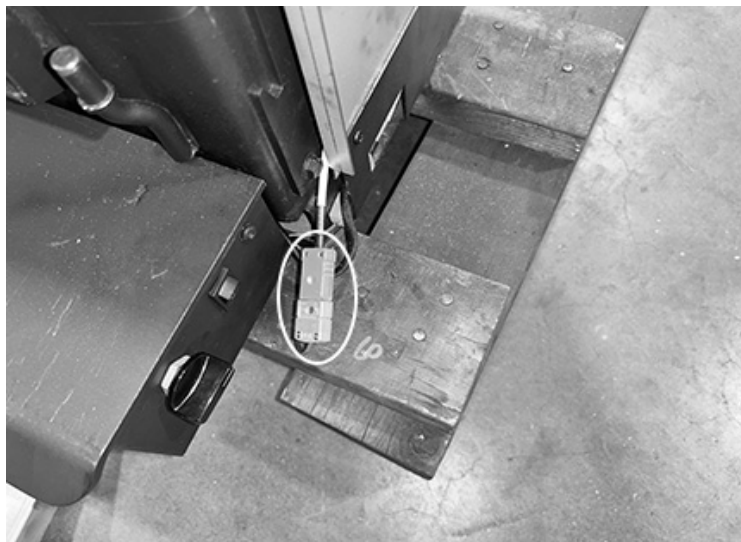

Figure 15: Flue Thermocouple connection.
8. Carefully pull the thermocouple connection for the flue thermocouple out near the bottom right, front corner of the unit and disconnect it. Figure 15. Guide the thermocouple out through the side access opening.